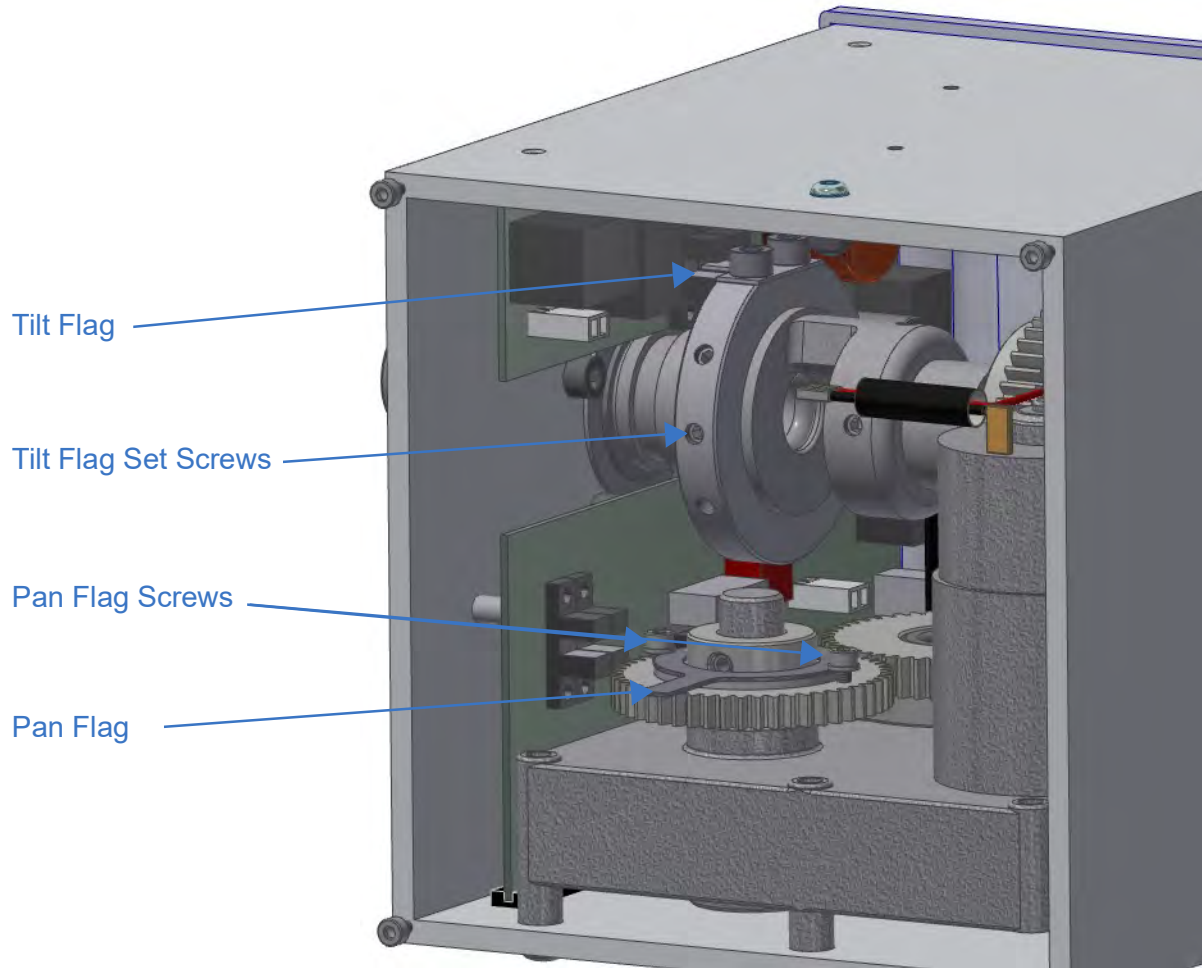

Figure 7-4 RCP Flags (RCP cover removed)
3. Remove the RCP cover to access the flags. The flags are attached to the timing rings on the horizontal and vertical shaft gears (Figure 7-4). The tilt timing ring has two set screws that must be loosened. The pan timing ring has two cap screws that must be loosened. It may be necessary to loosen one in each, then pan and tilt the unit to access the others. Note: The flags have sharp edges which may cause cuts.